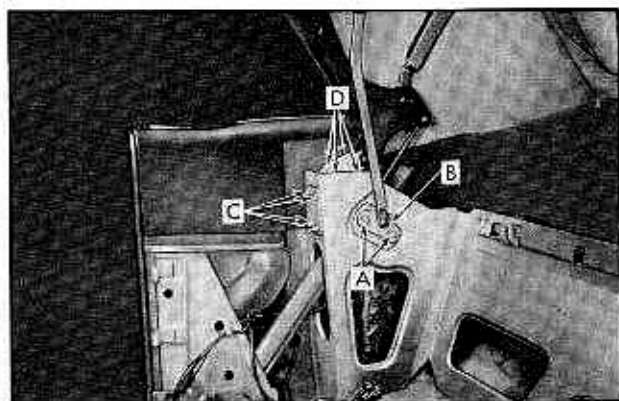

Fig. 3-101 Adjustment of Top at Rear Quarter
1. Loosen four male hinge attaching bolts "D" Fig. 3-101.
Loosen two control link adjusting plate nuts, "A", Fig. 3-101.
1. Loosen male hinge support attaching bolts "C", Fig. 3-101.